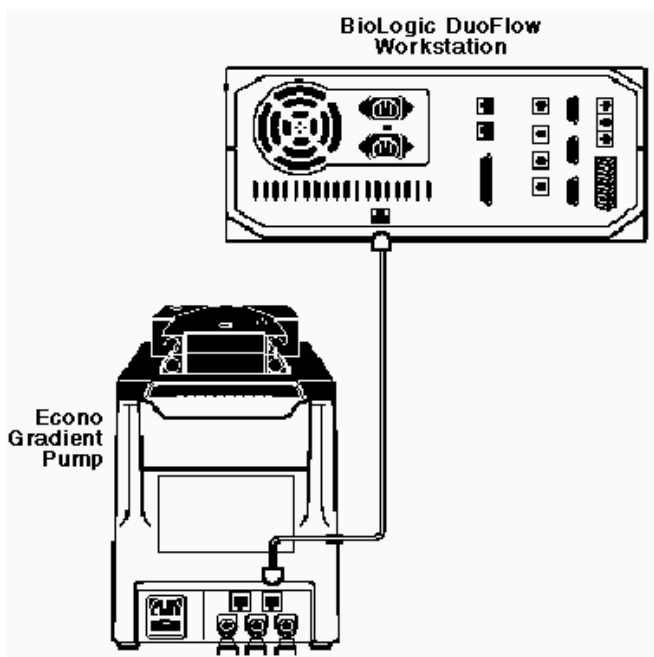

Fig. 8. Connecting the Econo Gradient Pump to the BioLogic DuoFlow workstation using System Cable 17.
2. The Econo Gradient Pump (EGP) is connected to the DuoFlow workstation with bus communication cable (System cable 17, catalog number 750-0650) (Figure 8). For a complete discussion of the Econo Gradient Pump, refer to its separate instruction manual.